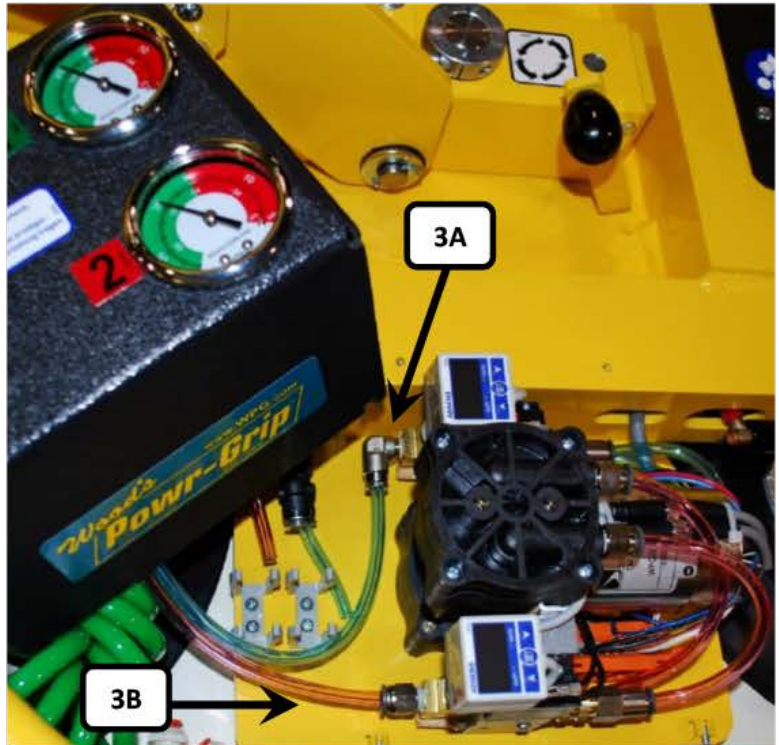

FIGURE 3
- 1) Disconnect the hose from the control valve fitting that connects the valve to the filter (blue/green or red). Disconnect the vacuum gauge hose from the filter. Connect the vacuum gauge hose to valve fitting (3A or 3B) where the filter was connected. See **FIGURE 3**.
- 2) Switch the power to on (I), and activate the vacuum generating system by pressing the apply (⇄) push button.
- 3) Allow the vacuum system to reach a suitable vacuum level or to shut off automatically and, with the lifter still applied, switch the power to off (O).